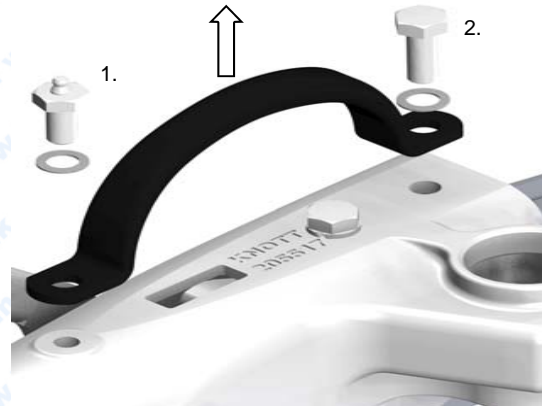

Fig.1
- a. For KFG20, KFG27, KFG30 couplings it will be necessary to remove the grab handle completely, remove bolts 1 & 2 (Fig.1), retain all parts.